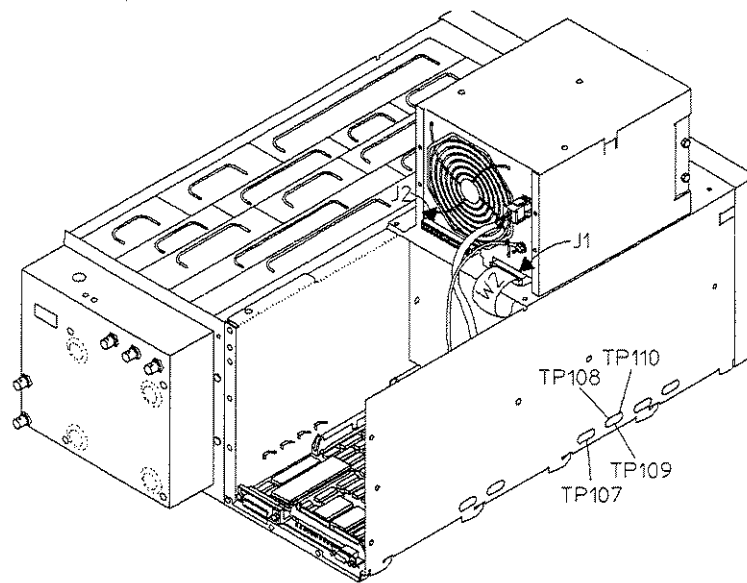

Figure 5-8. Memory Test Locations
1. Set the power switch to STANDBY (0). Disconnect the memory cable (W1) from J7 on the CPU assembly.
2. Set the power switch to ON (1). Using a logic probe, check that the signals listed in table 5-7 are toggling (see figure 5-8). If the signals are toggling, the Memory assembly is probably faulty.